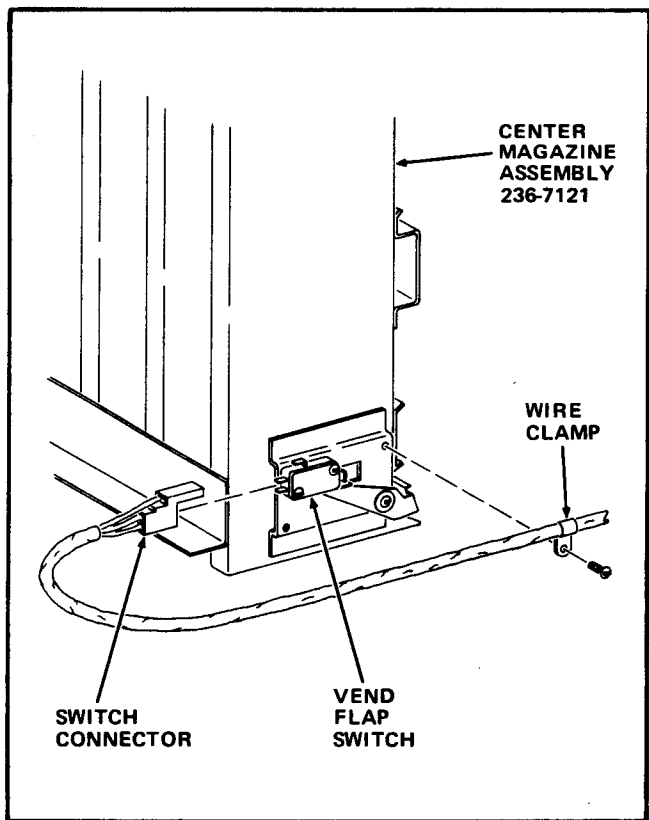

FIGURE 2
4. Remove the Screw attaching the Wire Clamp from the end of the Center Magazine. Retain the Screw. See Figure 2.
5. Disconnect the Switch Connector from the Vend Flap Switch. See Figure 2.
3. Connect the Vend Flap Switch Connector to the Vend Flap Switch on the Center Magazine Assembly. See Figure 2.
4. Attach the Wire Clamp on the Vend Flap Switch Harness to the end of the Center Magazine with the Screw removed in Step A-4. See Figure 2.